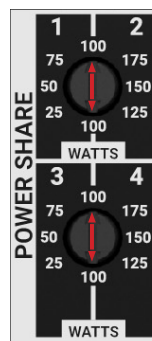

Fig. 4
- **Fig 4** - CLA404 Power Share selection arrow is set to 100W CH 1 / CH 2 and 100W for CH 3 / CH 4